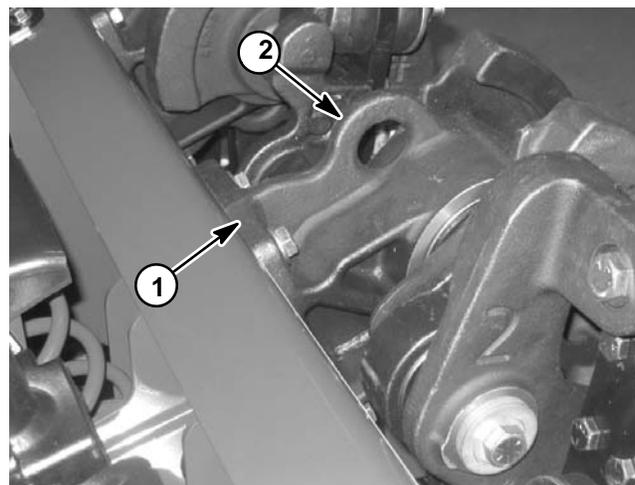

Figure 33
5. Use suitable lift or hoist and lifting eyelets on coring crankshaft as lift points (Fig. 33) to raise coring head. Raise coring head so that clearance exists between depth control assembly and pad on hitch frame.
7. Remove four (4) carriage screws and flange nuts that secure depth control assembly to coring frame.